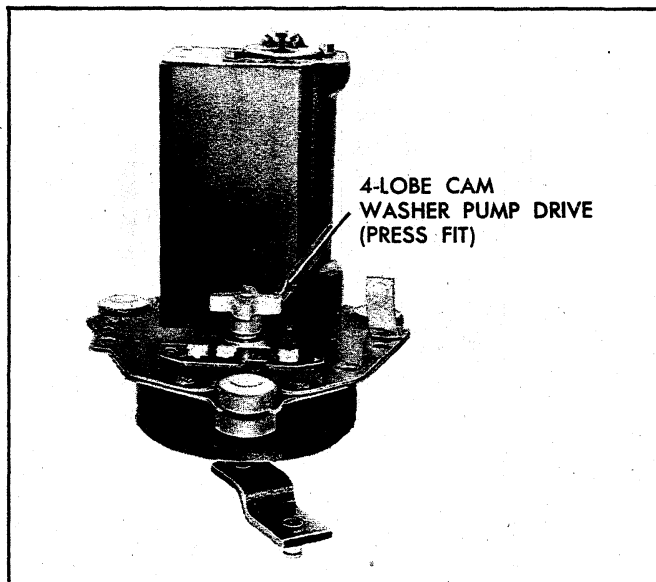

Fig. 67 - Washer Pump Drive Cam
2. Remove washer pump drive cam as required (fig. 67). The cam is pressed on the shaft but can be